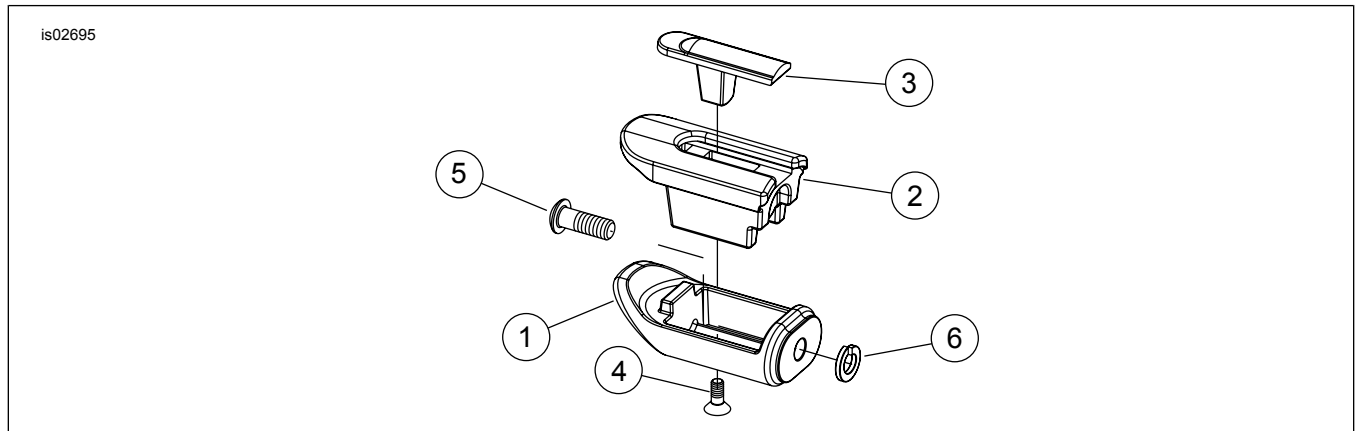

Figure 1. Service Parts: Centerline Shifter Peg Kit
See Figure 1 and Table 1.
2. See Figure 1. On the **new** footpeg assembly, remove 10-32 flat head screw (4), shift peg cover (3) and shifter peg insert tread from the shifter peg pedal (1).
See Figure 1. When installing the shifter peg pedal (1) to the shift lever, the lockwasher (6) should be installed between the shifter peg pedal and shift lever.
3. Using the screw (5) and lockwasher (6), attach the shifter peg pedal (1) to the shift lever. Tighten the screw to 11-15 ft-lbs (15-20 Nm).
4. Install the shift peg cover (3) into the shifter peg insert tread (2) and place into the shifter peg pedal (1). From the bottom, install screw (4) into shift peg cover and tighten to 15-25 in-lbs (1.6-2.8 Nm).